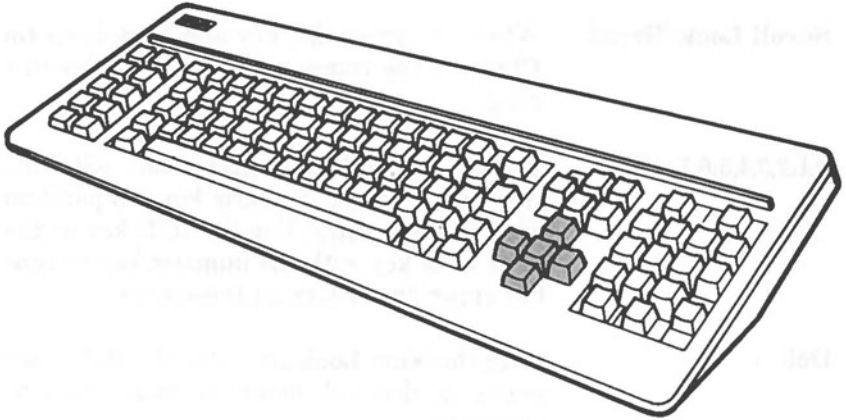

Figure 2-11 Cursor Keys
- ↑ This upward-arrow key, inactive in DOS, moves the cursor up one line each time you press it. There are two up-arrow keys on your keyboard, one in the Cursor keypad and one in the Numeric keypad (see Figure 2-11). It moves multiple lines if you hold it down. This key is software dependent.